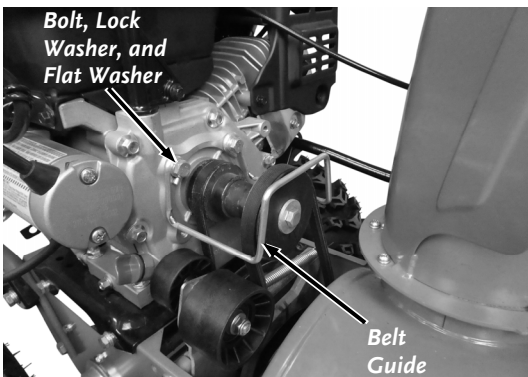

Figure 41
2. Remove the two Bolts, Lock Washers and Flat Washers that secure the Belt Guide to the Engine using a 13mm Wrench and remove the Belt Guide (**Figure 41**).